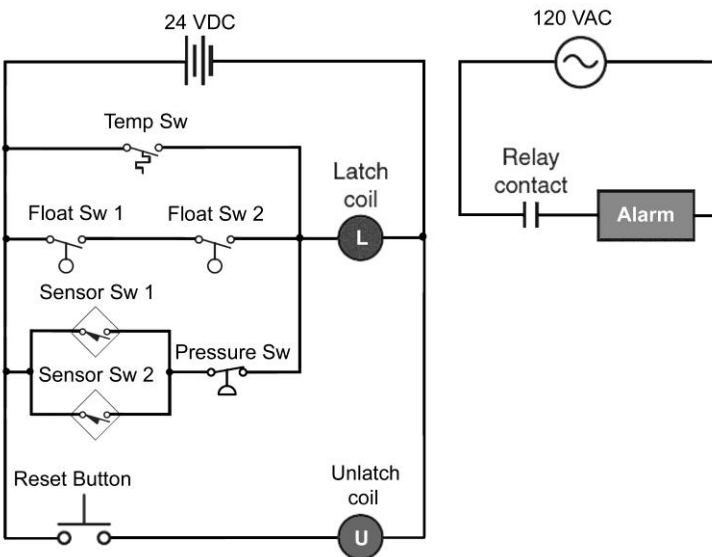

Figure 15-17 Hardwired
4) Prepare an I/O connection diagram and ControlLogix program that will simulate the operation of the hardwired latching relay alarm circuit shown in Figure 15-17 and described in the text. Utilize field devices found on your ControlLogix installation. Enter the program into the controller, and monitor its operation.